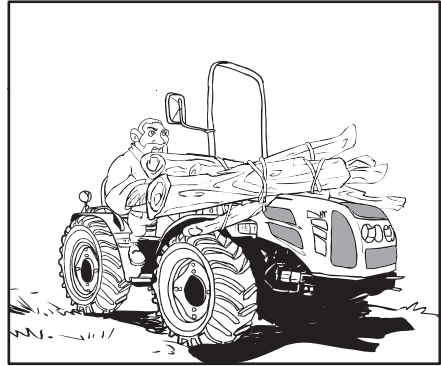

Fig. 2.13
- Do not overload a front implement or a trailer. Use suitable counterweights to maintain tractor stability (Fig. 2.13).